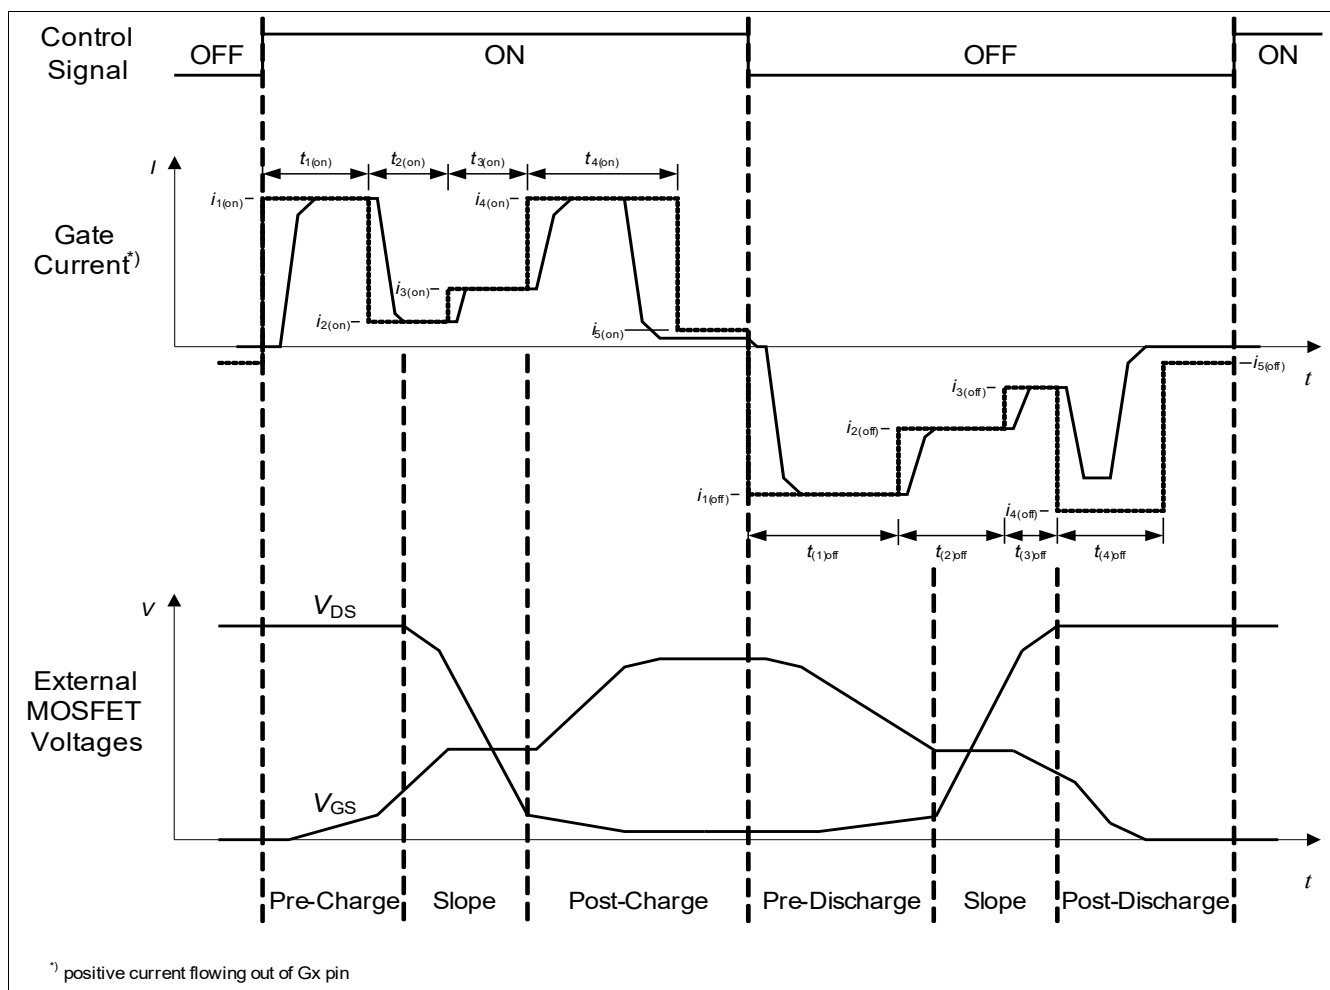

Figure 221 Gate current set point values generated by the sequencer
- In sequencer mode an advanced gate current profile is defined by SFRs where the gate charging phase and the gate discharging phase each are split into consecutive sub phases with individual current set point values and duration values (see Figure 221):